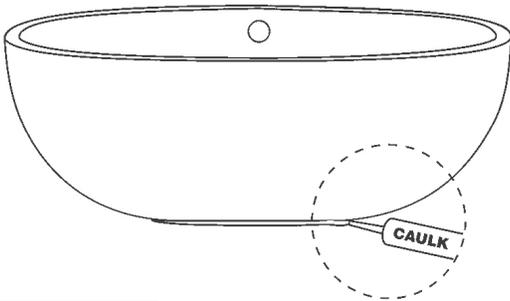

FIGURE 6
- 12 Carefully set tub into position (Figure 6) and connect the drain hardware (previously installed).